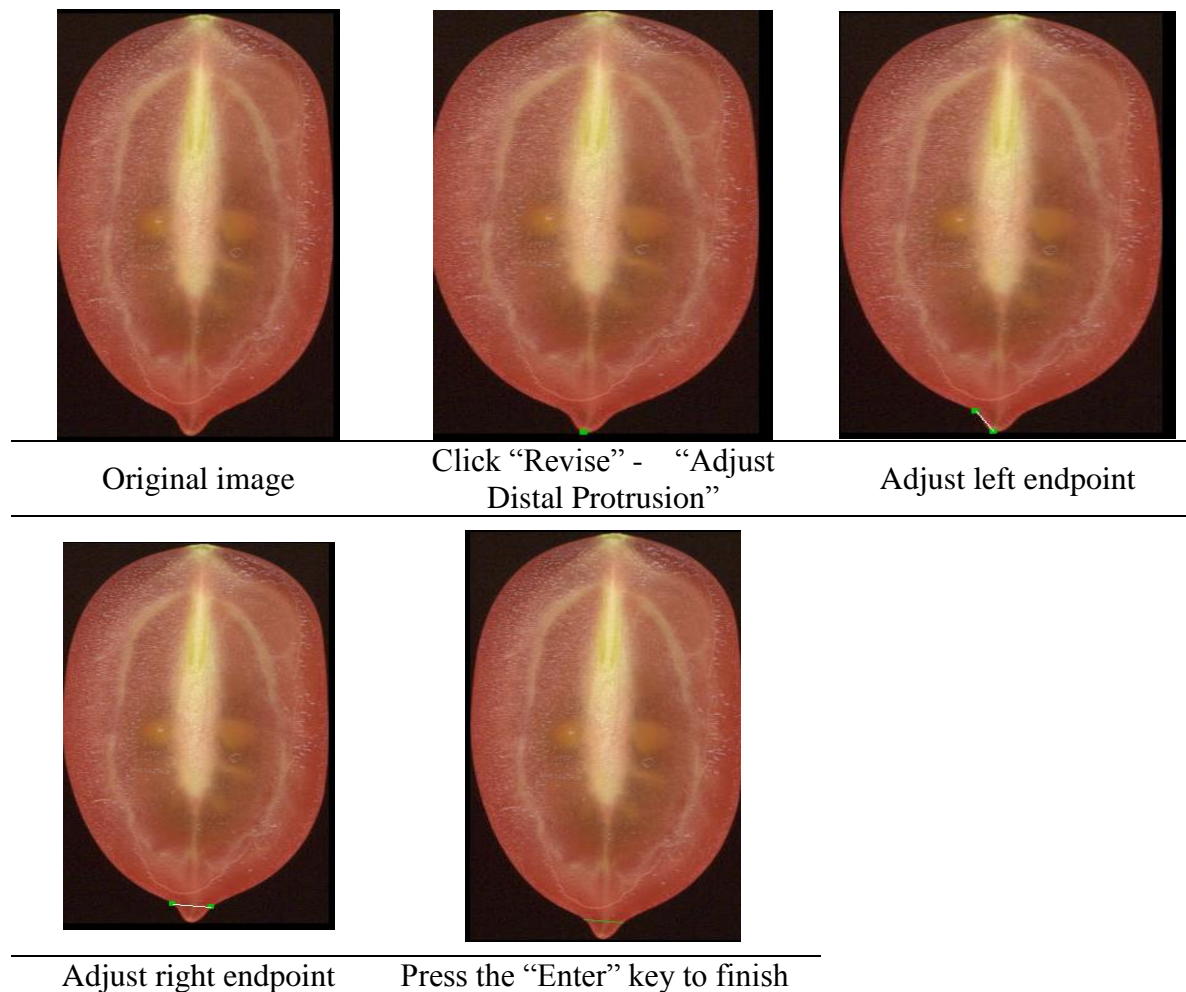

Figure 11 Revising distal end protrusion
- Drag the points that appear to the desired positions along the boundary (see Figure 11).